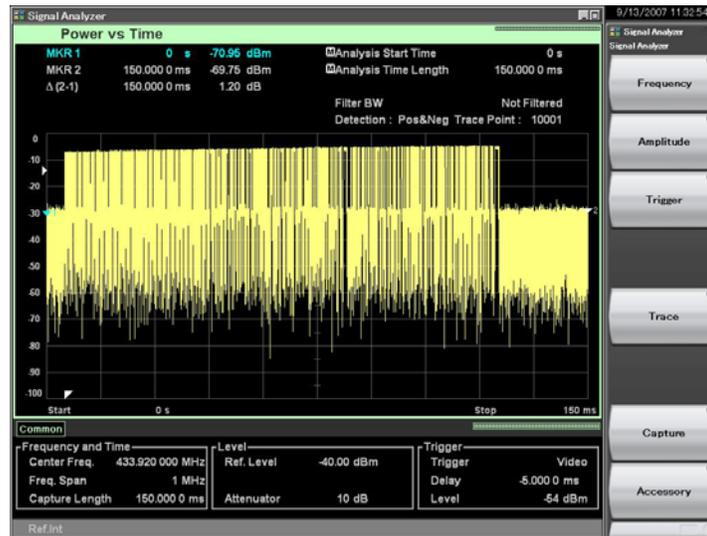

FIGURE 7.
- B. Capture an RKE ASK transmitter signal. The process to capture the ASK signal is similar to the process described for the FSK signal. Follow Steps 1 – 11 in the preceding section. Transmit the ASK signal as indicated to the FSK signal. The ASK frame is shown in *Figure 7*.